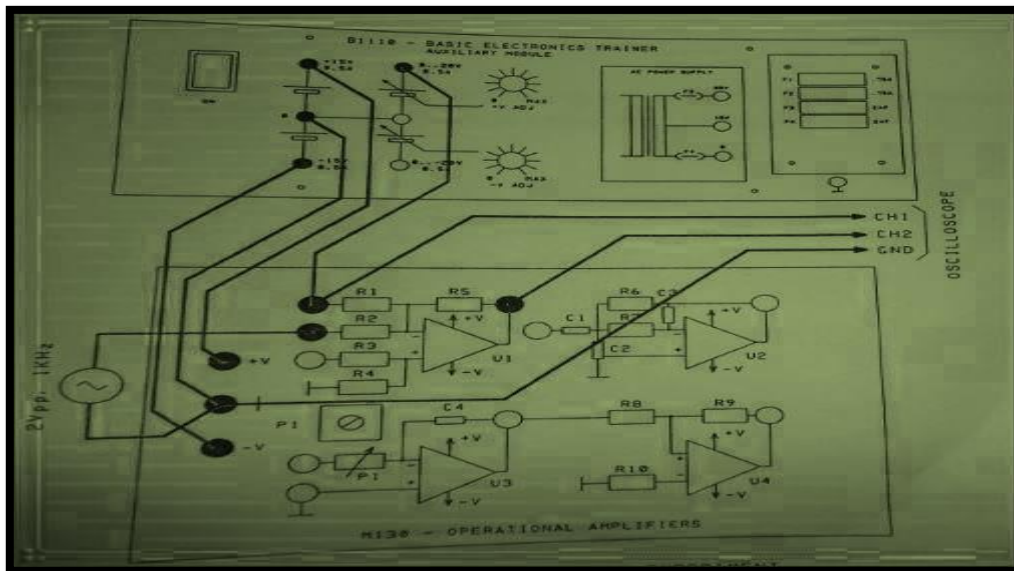

Figure 4-B: Practical wiring for the experiment
- 1- Apply a variable DC voltage at the input and the consequent output voltage is measured and recorded. Figure 4-A and 4-B shows the setup. Note that the M130 is power supplied at +15 and -15.